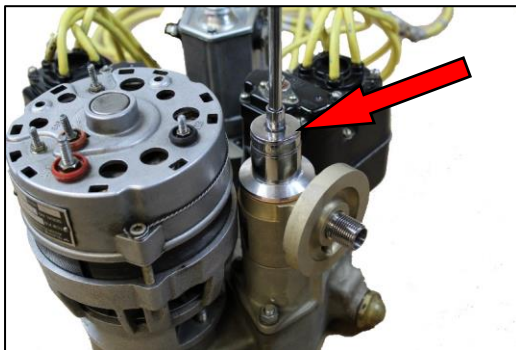

Figure 4
5. In general (see paragraph 6 for exceptions), using a socket as shown in Figure 4, tighten the spool snugly. Temporarily install an oil filter onto the filter mount flange. Position the filter so that at least 3/8-inch of clearance exists between the oil filter and other items in the engine compartment. At this stage, the spool should be tightened only enough to keep the filter in the proper location with respect to other adjacent items in the engine compartment.